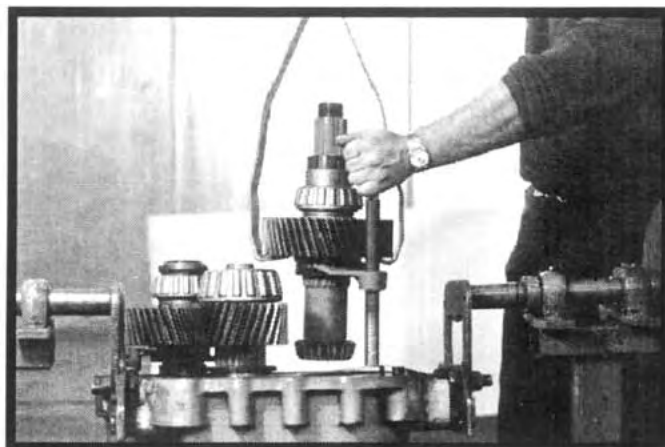

Figure 6.33
9. Position the rear output shift shaft/fork subassembly to the rear output shaft clutch collar and lower into place. See Figure 6.33.